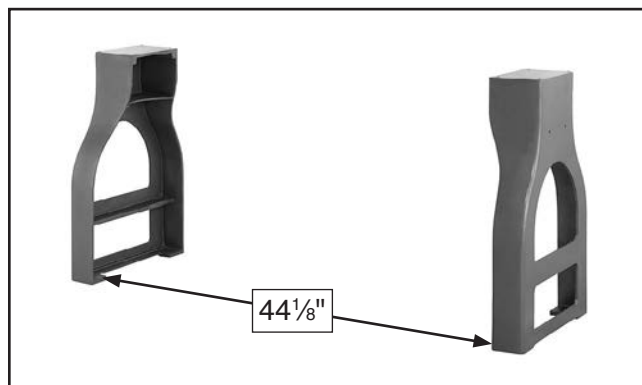

Figure 15. Example of stand legs upright.
9. Position stand legs upright approximately 44 $\frac{1}{8}$ " apart, and get them reasonably aligned (see **Figure 15**).